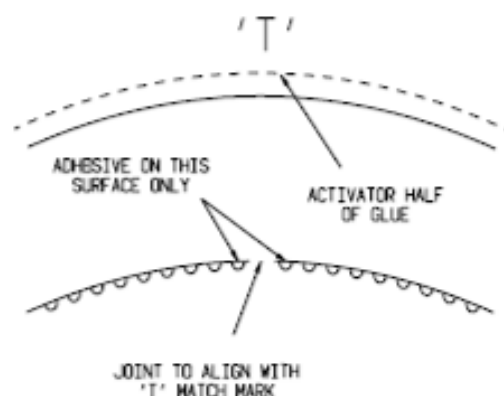

Figure 3.
- Ensure gap aligns with T-balance mark. See figure 3. The tolerance strip is held in place by a two part quick acting adhesive such as Loctite Multi Bond.